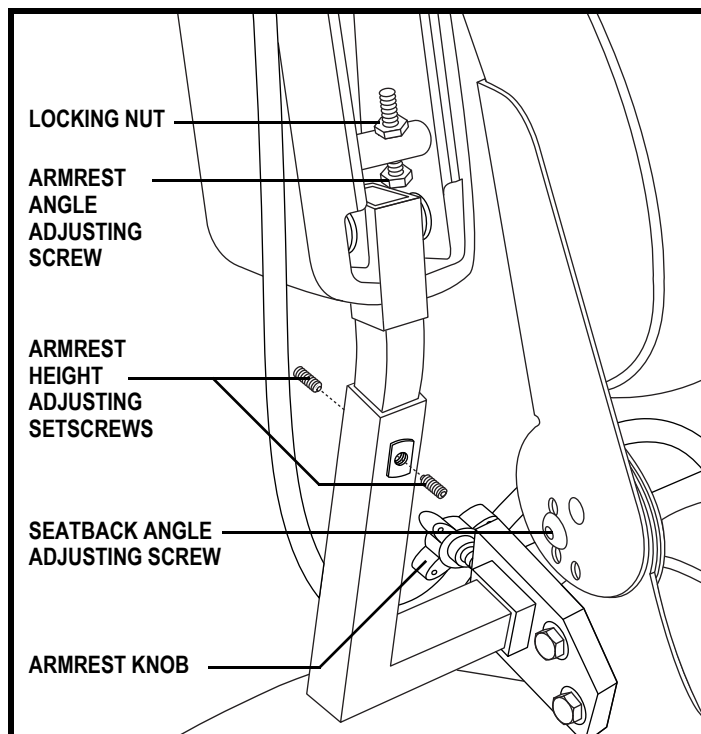

Figure 18. Seatback/Armrest Adjustment
1. Remove the adjusting screws from each seat hinge. **See figure 18.**
1. Locate the two armrest knobs on each side of the armrest receiver bracket. **See figure 18.**
1. Lift the armrest straight up so that it is perpendicular to the floor. **See figure 18.**